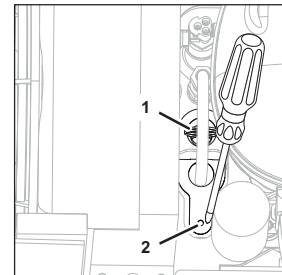

Fig. 79
1. Push the drain lever (Fig. 79/2) away from the drain valve (Fig. 79/1) until the system is depressurised.